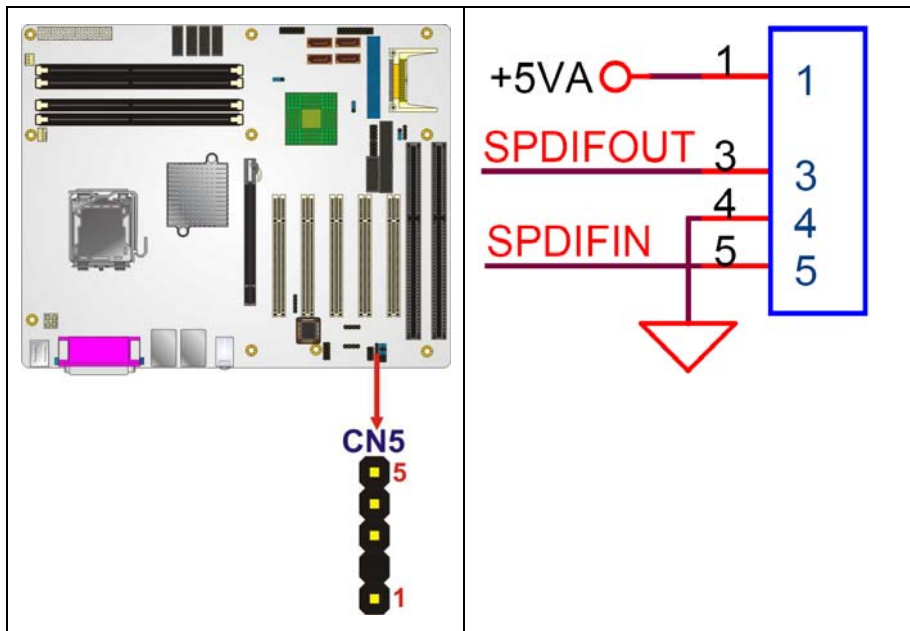

Figure 4-21: SPDIF Connector Pinout Locations
- CN Location:** See Figure 4-21